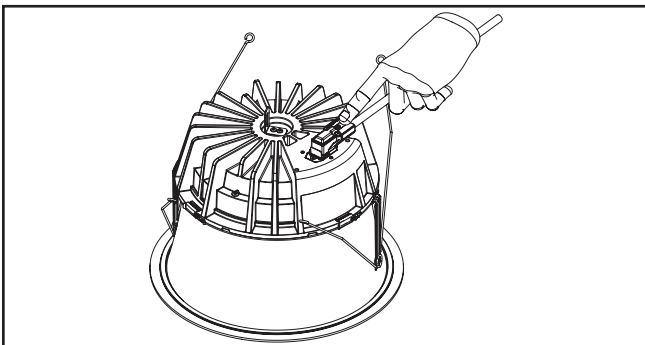

Figure 39.
- Properly align the connector as shown in (Figure 39). Plug in the luminaire quick disconnect on the module.